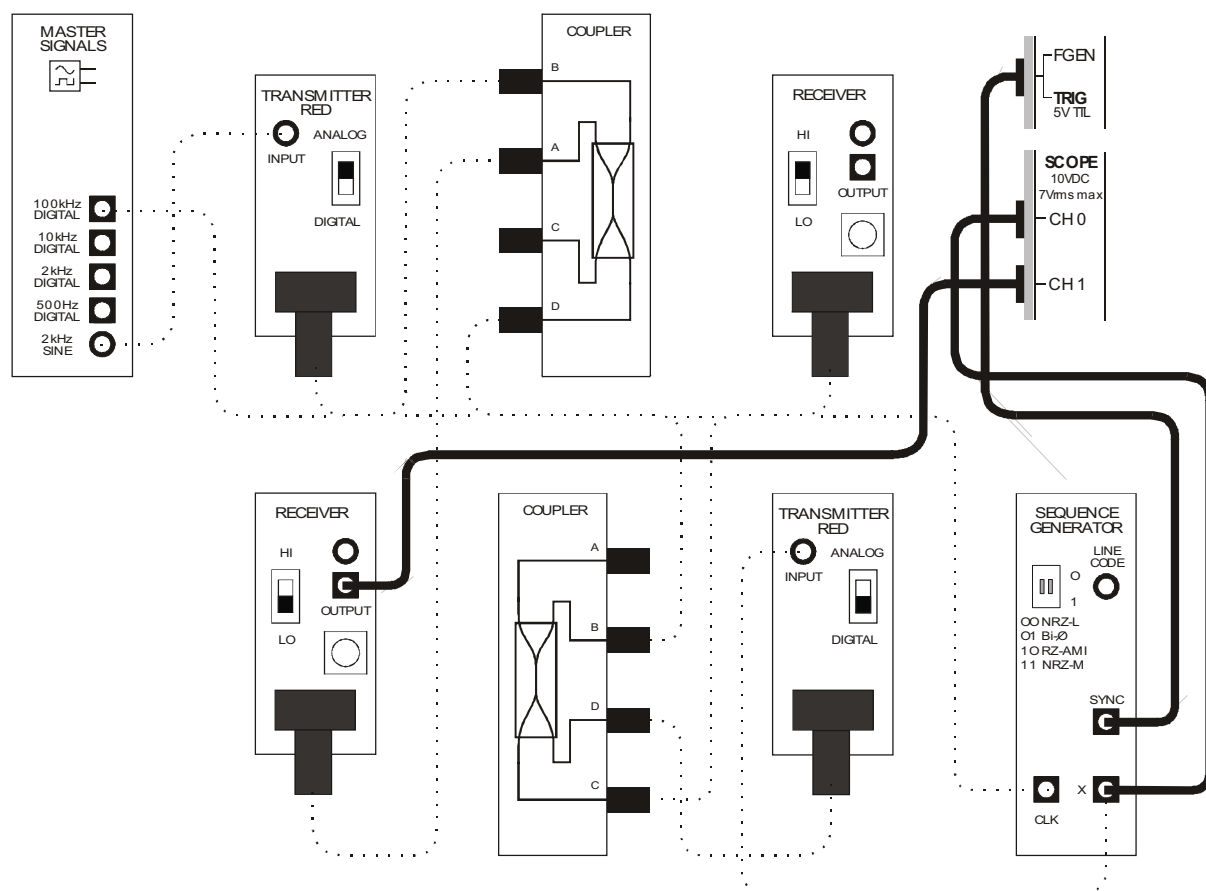

Figure 8
27. Modify the scope's connections to the set-up as shown in Figure 8 below.